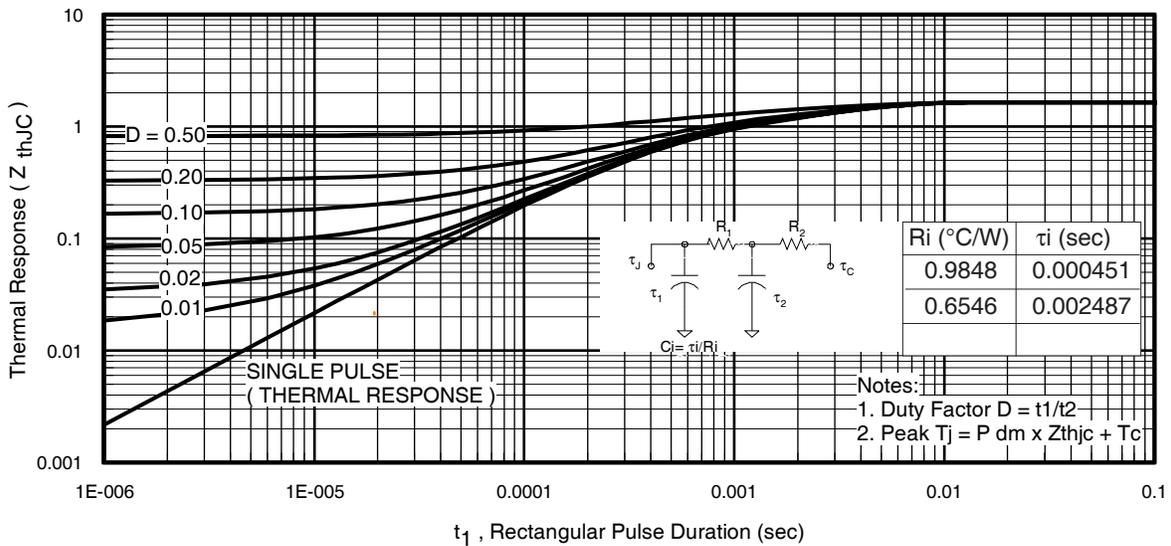
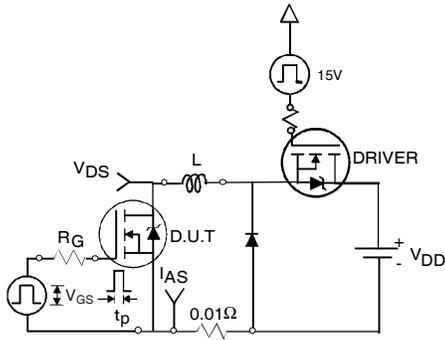

Fig 11. Maximum Effective Transient Thermal Impedance, Junction-to-Case
Fig 12a. Unclamped Inductive Test Circuit
- ① Repetitive rating; pulse width limited by max. junction temperature. (See fig. 11).
- ② Limited by T_{Jmax} , starting $T_J = 25^\circ\text{C}$, $L = 0.11mH$, $R_G = 25\Omega$, $I_{AS} = 37A$, $V_{GS} = 10V$. Part not recommended for use above this value.
- ③ $I_{SD} \leq 37A$, $di/dt \leq 920A/\mu s$, $V_{DD} \leq V_{(BR)DSS}$, $T_J \leq 175^\circ\text{C}$.
- ④ Pulse width $\leq 1.0ms$; duty cycle $\leq 2\%$.
- ⑤ $C_{oss\ eff.}$ is a fixed capacitance that gives the same charging time as C_{oss} while V_{DS} is rising from 0 to 80% V_{DSS} .
- ⑥ Limited by T_{Jmax} , see Fig.12a, 12b, 15, 16 for typical repetitive avalanche performance.
- ⑦ This value determined from sample failure population, starting $T_J = 25^\circ\text{C}$, $L = 0.11mH$, $R_G = 25\Omega$, $I_{AS} = 37A$, $V_{GS} = 10V$.
- ⑧ This is applied to D²Pak, when mounted on 1" square PCB (FR-4 or G-10 Material). For recommended footprint and soldering techniques refer to application note #AN-994.
- ⑨ R_θ is rated at T_J of approximately 90°C .
3. Equation below based on circuit and waveforms shown in Figures 12a, 12b.
$Z_{thJC}(D, t_{av})$ = Transient thermal resistance, see figure 11)